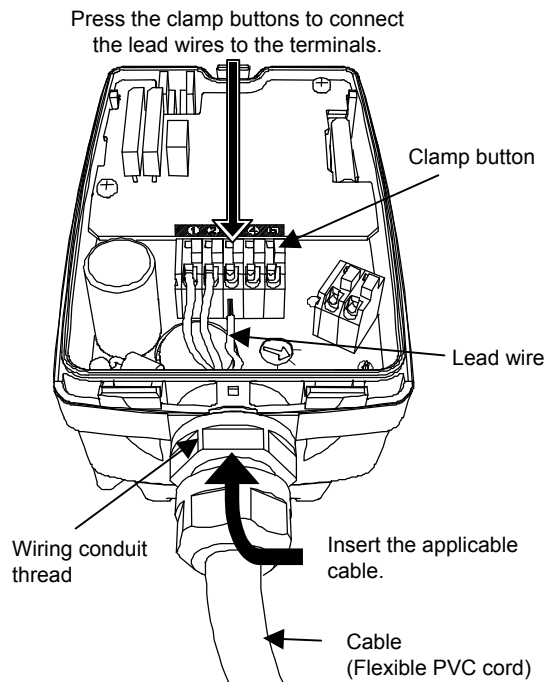

Figure 7. Lead wire connection
- 2) Let the lead wires go through the wiring conduit. (See Fig. 7) Connect the lead wires to the corresponding terminals while pushing clamp buttons.